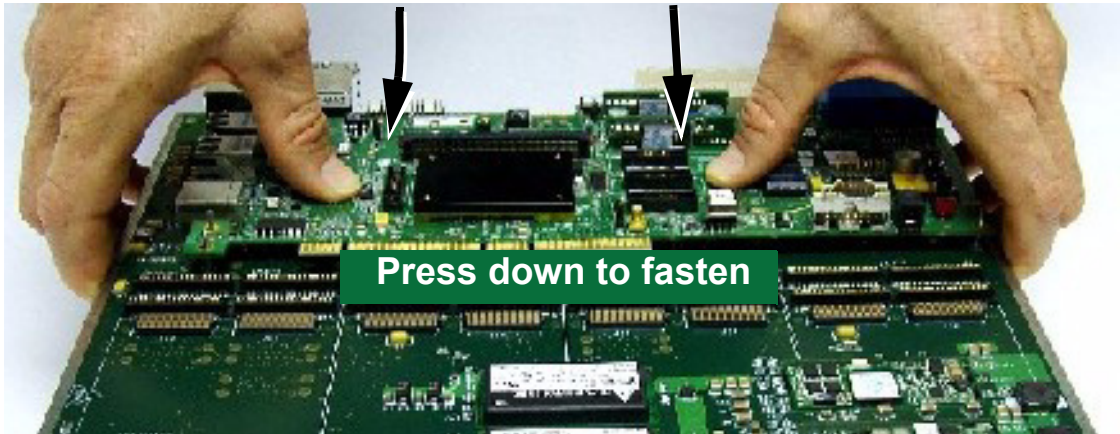

Figure 2-6. Connect Processor board to PIB and press down with fingers
3. Connect processor board to PIB board as shown in Figure 2-6.
4. Ensure a tight fit by pressing down on the processor board **by hand only** until the pins engage (see Figure 2-6)